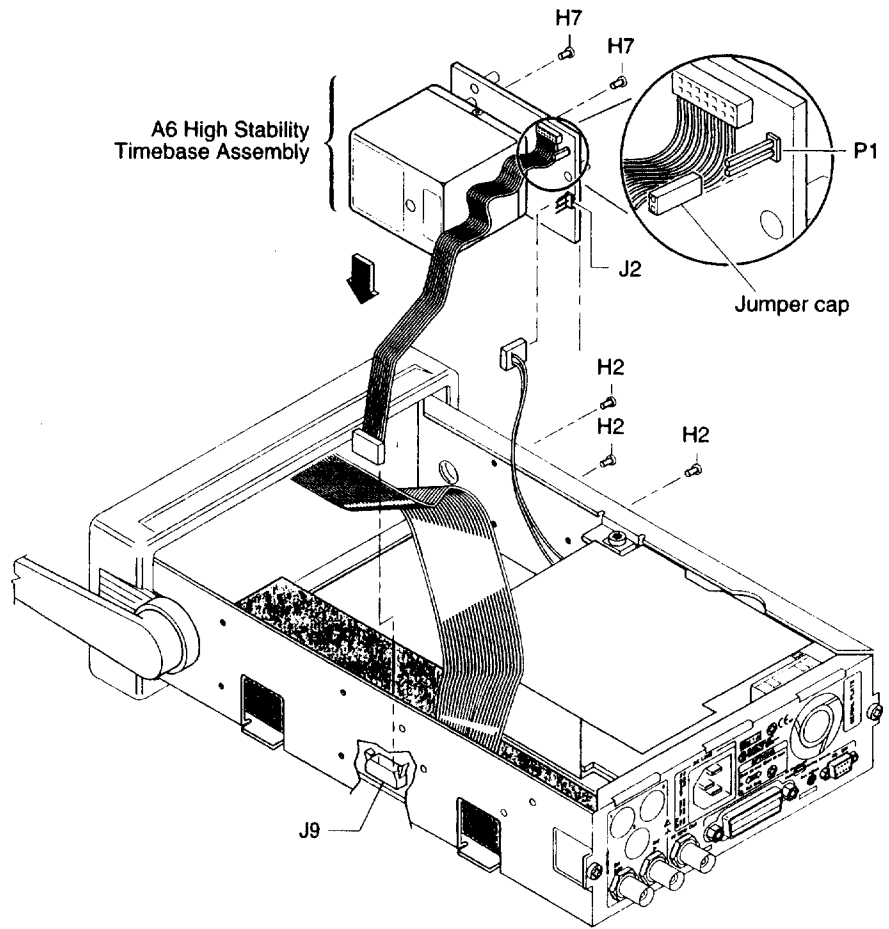

Figure 4-2. High Stability Timebase Retrofitting (Option 001, 010, 012)
- 4 Plug the oven oscillator into the socket on A6 Timebase Support Board, and secure the oven oscillator to A6 using the two Pozidriv screws (H7) as shown in Figure 4-2.**
- 5 Plug the oven oscillator into the socket on A6 Timebase Support Board, and secure the oven oscillator to A6 using the two Pozidriv screws (H7) as shown in Figure 4-2.**
- 6 If you are retrofitting the Option 001 Medium Stability Timebase, remove the jumper cap on P1 of A6 Timebase Support Board as shown in Figure 4-2.**
- 7 Mount A6 High Stability Timebase Assembly on the left side using three TORX 10 screws (H1) as shown in Figure 4-2.**
- 8 Plug the power supply assembly's two-wire cable into the three-prong connector (J2) on the high stability timebase assembly as shown in Figure 4-2 (if the two-wire cable exists).**
- 9 Connect A6 High Stability Timebase Assembly cable to connector J9 on A1 Motherboard Assembly as shown in Figure 4-2.**